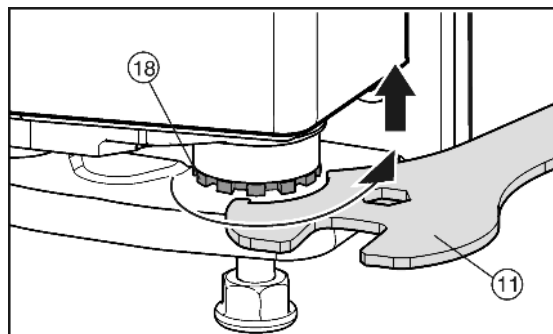

Fig. 13
- ▶ To lift the door, turn the bearing pin *Fig. 13 (18)* clockwise using the open-ended spanner *Fig. 13 (11)* included in the supply package. In the delivery condition, the bearing pin is completely screwed in.